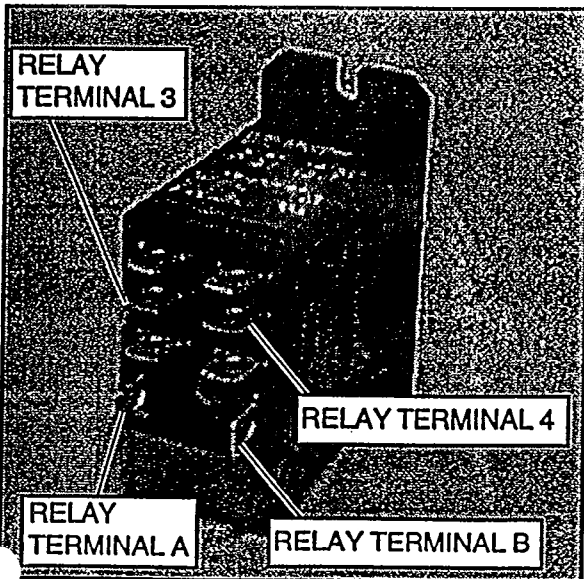

Figure 4 - Relay
14. Attach the orange wire of the blue cable from platform controls to terminal B on the relay using relay connector (#029615-002). Figure 4.